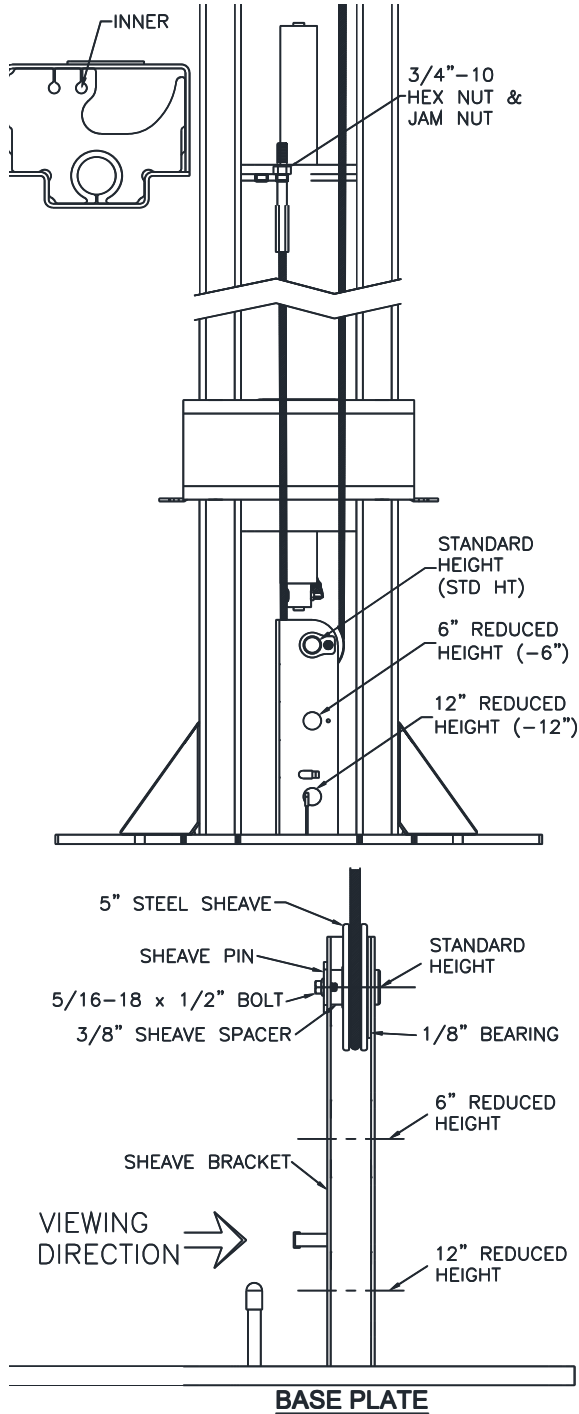

Fig. 2 – Cable Routing
- Manually push carriages up enough to unhook the cylinder hose from the base plate tabs. Proceed with pushing the cylinder and carriage up enough to access all three sheave locations on the sheave bracket, see **Fig 2**.
- 5) Determine the sheave location on the bracket based on Column Extension Height, see Fig 2. **Note: The column has been assembled with the sheave in the highest position on the bracket for the lift installed at STD (max) height.** Reposition the sheave to the middle hole for -6" install height and to the bottom position for -12" install height.
- 6) Remove the bolt, sheave pin, sheave, spacer, and bushing, Fig. 2, to allow the cable to be installed.
- 7) Route a cable through a carriage and out the bottom. Route it back up and into the inside hole at the top of the carriage, see Fig 2. **Ensure cables do not twist or wrap around hoses during routing.**
- 8) Place the 1/8" spacer inside the bracket centered over the bracket hole based on the chosen install height. Install the cable on the sheave and slide into place. Stack the 3/8" spacer onto the sheave assembly. Still holding the sheave assembly, slide the pin into place. Install the bolt to secure the pin, see Fig 2.